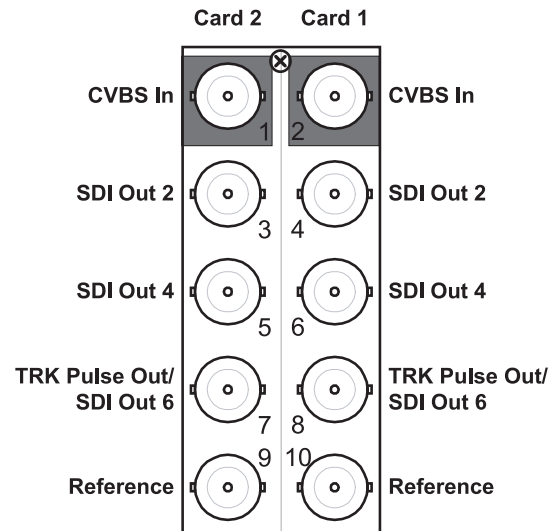

Figure 2.3 Cable Connections for the 8320AR-031
- **8320AR-031** Split Rear Module — Each rear module occupies two slots and accommodates two cards. This rear module provides two or three outputs per card. (Figure 2.3)
2. Connect downstream SD-SDI devices to BNCs 2 through 6, 8, and 10 (SD-SDI Out). If you are using the 8320AR-031 Split Rear Module, connect to the required BNCs as indicated in **Figure 2.3**.